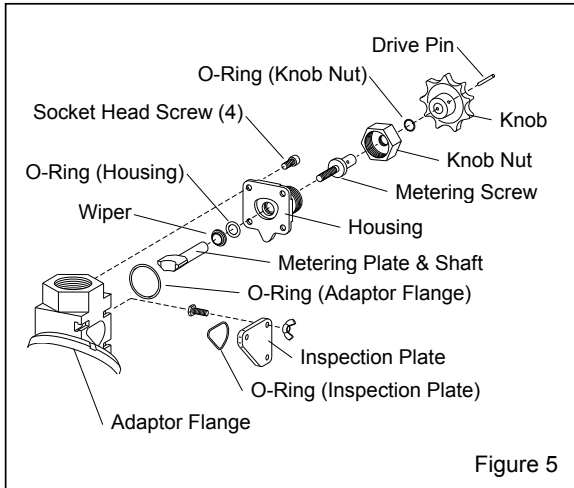

Figure 5
4.1 Metering Assembly, Ref. Figure 5